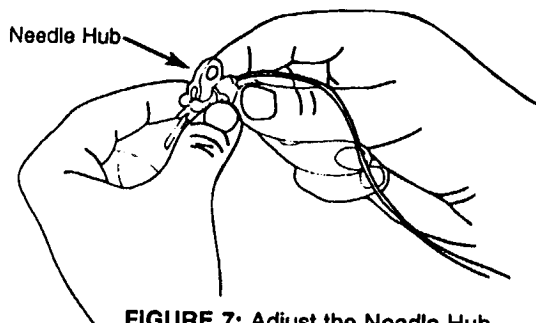

FIGURE 7: Adjust the Needle Hub
- Step 6. Check to make sure that the Needle Hub is seated against the Sensor Assembly Base. If there is a gap between the Needle Hub and the Sensor Assembly, push on the hub to slide it back into position (Figure 7).